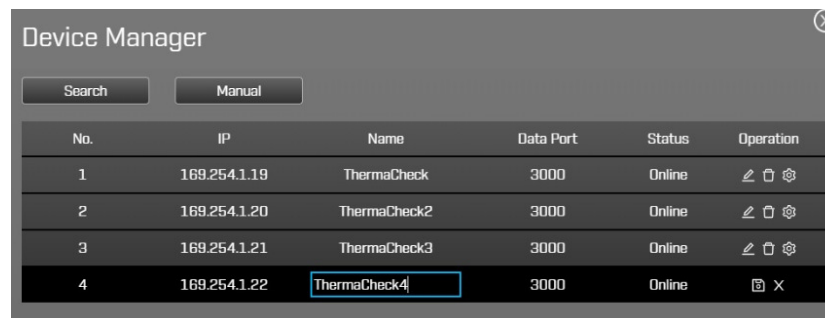

Figure 6: Device list interface
2. Note that camera names can be modified in the Device Manager interface. Select the pencil icon , to modify the text of the camera name as shown in Figure 6, and save the name by selecting the disk icon .